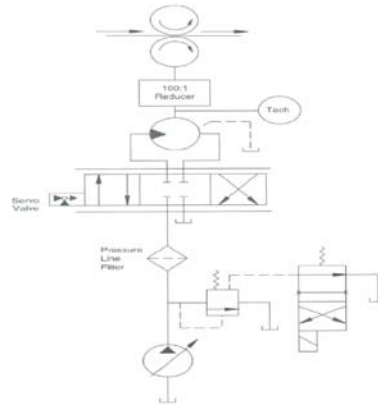

FIGURE 11-31 Servo motor used to control the speed of sheet steel for building for a required ductile.
- Typical velocity servo shown in Fig 11.31